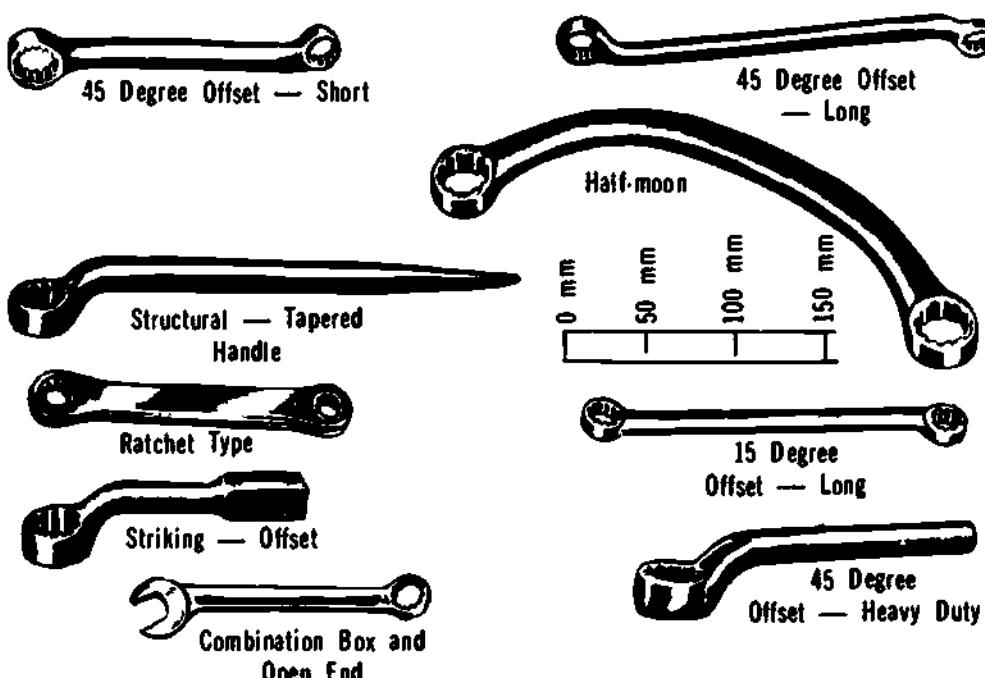

Figure 1-133. Styles of Box Wrenches
a) Box wrenches are so named because they surround, or box, the bolt head or nut. The opening in the box head usually has six or twelve notches (called "points") arranged in a circle. The box wrench is a safer tool than the open-end wrench, since it will not slip off. As little as $\frac{1}{12}$ of a turn can be taken at one stroke if necessary in close quarters. A few types are shown in Figure 1-133.